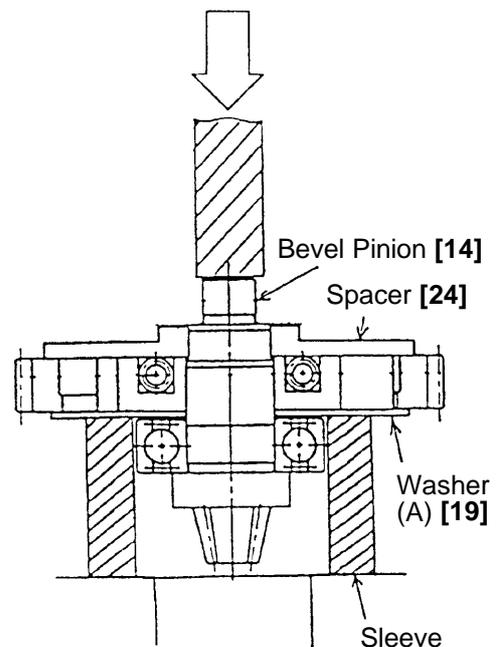

Fig. 13
The Slip Clutch Ass'y can be removed with the following procedure. First pull out the Ball Bearing 629VV **[25]** with a bearing puller (Code No. 970804), support the Washer (A) **[19]** on a sleeve as shown in Fig. 13 and release the Bevel Pinion **[14]** from the press-fitting by pushing it from the Spacer **[24]** side using a hand press. When removing the Gear Holder **[20]** from the Second Gear **[23]**, it is recommended to keep them inside a vinyl bag during disassembly to prevent the Springs (C) **[21]** and Needle Pins **[22]** from scattering.